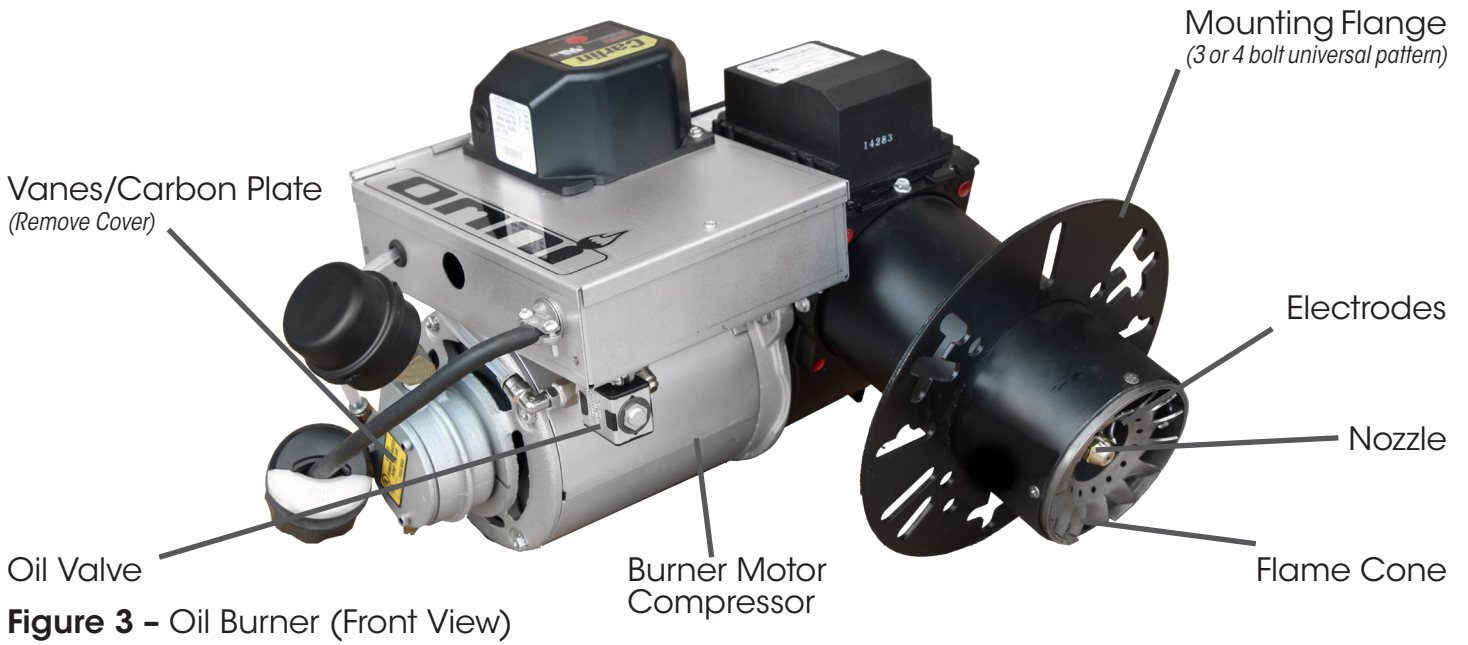
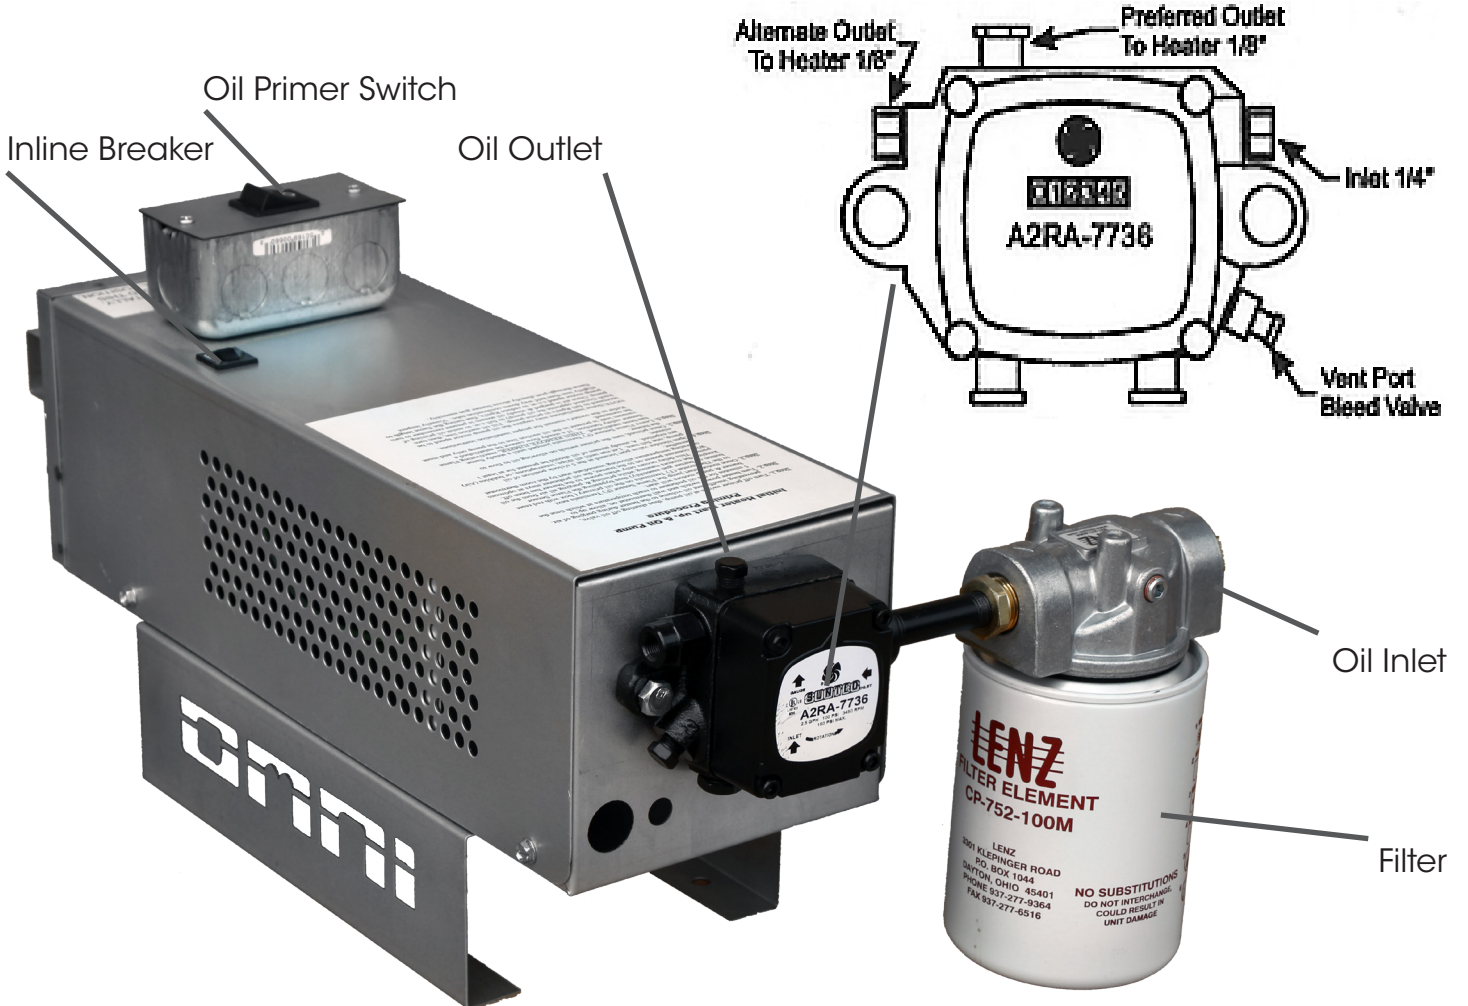

Figure 3 - Oil Burner (Front View)
Figure 4 - Oil Pump Diagram
OMNI's patented burner technology improves the efficiency of the oil burn process by continuous stabilization of the oil viscosity. Optimum atomization (spray) is accomplished by precisely pre-heating the oil and air prior to introduction to the combustion chamber. The waste oil enters into the Oil Pre-Heater Block (figure 4) and is pre-heated to operating thermo set-point, then compressed air from the air compressor (figure 3) is mixed with the oil prior to spraying out the nozzle similar to fuel injection, by breaking up the oil droplets into a finer mist or spray (atomization). Electrodes mounted just above the nozzle (figure 5) provides continuous electrical arc across electrode to electrode igniting the fine oil mist as it sprays out of the nozzle. Once ignited the flame is forced into a swirl caused by the burners blower and specially designed flame cone (figure 5) providing a very efficient and thorough burn of the waste oil.
- **Igniter Transformer:** (figure 3) Supplies high voltage to the electrodes generating electrical arc igniting the oil.
- **Air Band:** (figure 3) Adjusts amount of air introduced into the combustion chamber. Air band is adjusted at the factory for optimum performance, approx. $\frac{1}{2}$ to $\frac{3}{4}$ inch open. **NO FIELD ADJUSTMENT REQUIRED** unless in high altitudes application where minor adjustment may be required.
- **Oil Primary Control:** (figure 3) Controls the oil burner ignition. Checks for flame in the combustion chamber, if no flame is detected within 45 seconds, the oil primary will shutdown the oil burner. To restart the unit, reset the red button on the oil primary.
- **Oil Pre-Heater Block:** (figure 4) Pre-heats the oil and air before entering combustion chamber.
- **Photo Eye:** (figure 4) Senses flame in combustion chamber and signals oil primary when no flame is present.
- **Igniter Springs:** (figure 4) Transfers the high voltage from the igniter transformer to the electrodes (when door is closed)
- **Air Pressure Gauge:** (figure 3) Displays air pressure supplied by on-board air compressor.
- **Air Compressor:** (figure 3) Supplies air used within pre-heater block to aid in atomization of the oil.
- **Air Muffler/Filter:** (figure 3) Filters air and muffles the sound generated by the compressor.
- **Pre-Heater Control Circuit Board:** (figure 4) Precisely controls temperature of the Oil Pre-Heater Block and controls safety feature of not allowing burner to energize until oil has established operating thermo set-point or shutdown burner if Pre-Heater Block temperature falls below shutdown thermo set-point.
- **Electrodes:** (figure 4 and 5) Provides continuous high voltage electrical arc from electrode to electrode igniting the waste oil as it is being sprayed out of the nozzle.
- **Air Pressure Adjuster:** (figure 3) Adjusts the air pressure going to the pre-heater block. Should be adjusted between 12 PSI and 13PSI as indicated on the Air Pressure Gauge on the burner for thorough burn of the waste oil. **Note: In order to insure proper air adjustment, air gauge must read 0 when burner is cycled off or powered down.**
- **Power Indicator:** (figure 3) Indicates when power is present at the burner.
- **Run Indicator:** (figure 3) Indicates that the burner is ready for operation after the initial pre-heat time of approx. 5 minutes from initial power up.